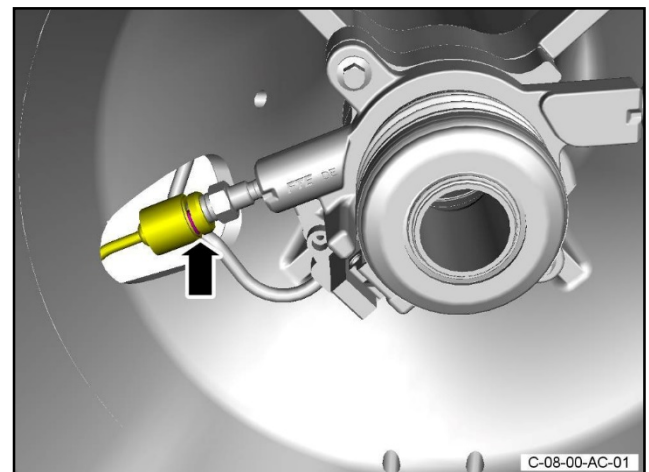

Figure 4
5. Remove the spring clip that attaches the bleed pipe to the slave cylinder (refer to Figure 4)